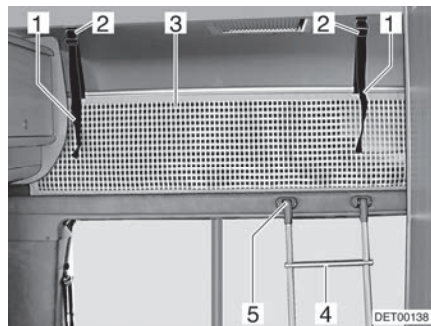

Fig. 58 Overcab bed
Always use the access ladder (Fig. 58,4) provided as standard to access the overcab bed.
- Attach the ladder with the rails to the holder (Fig. 58,5) on the alcove panel.
The safety net (Fig. 58,3) is stored as standard between the mattress and slatted frame. Only use the safety net if persons are already in the alcove.
- Let the retaining straps (Fig. 58,1) snap into the holders (Fig. 58,2) on the ceiling.